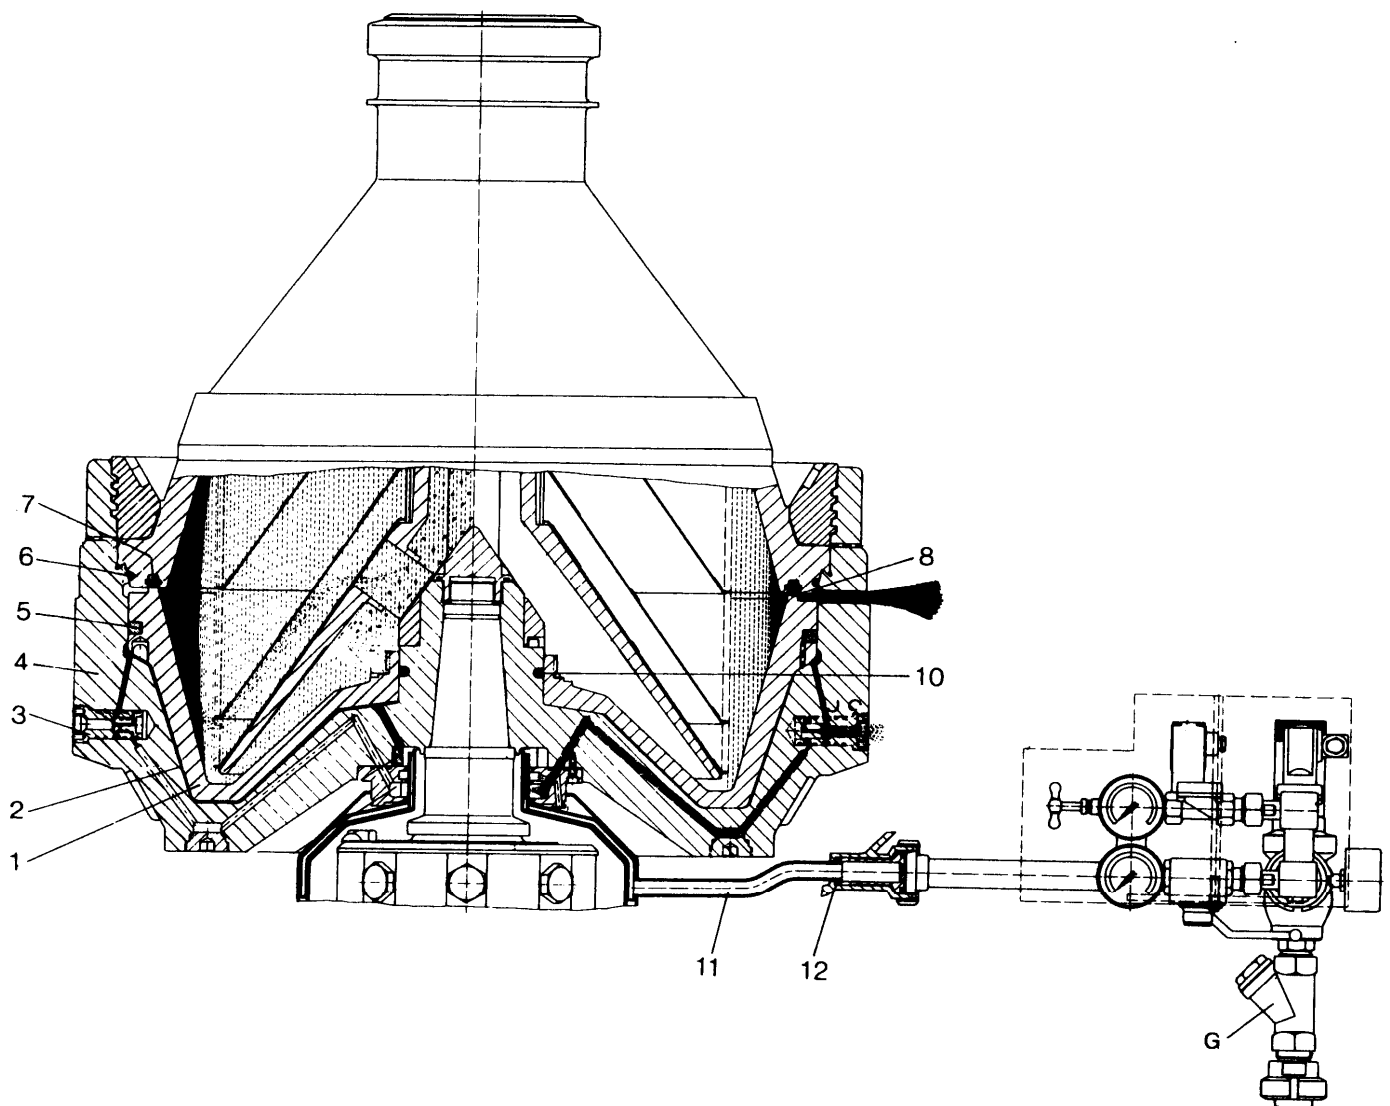

Fig. 10
10.2 Bowl performance (Fig. 10)